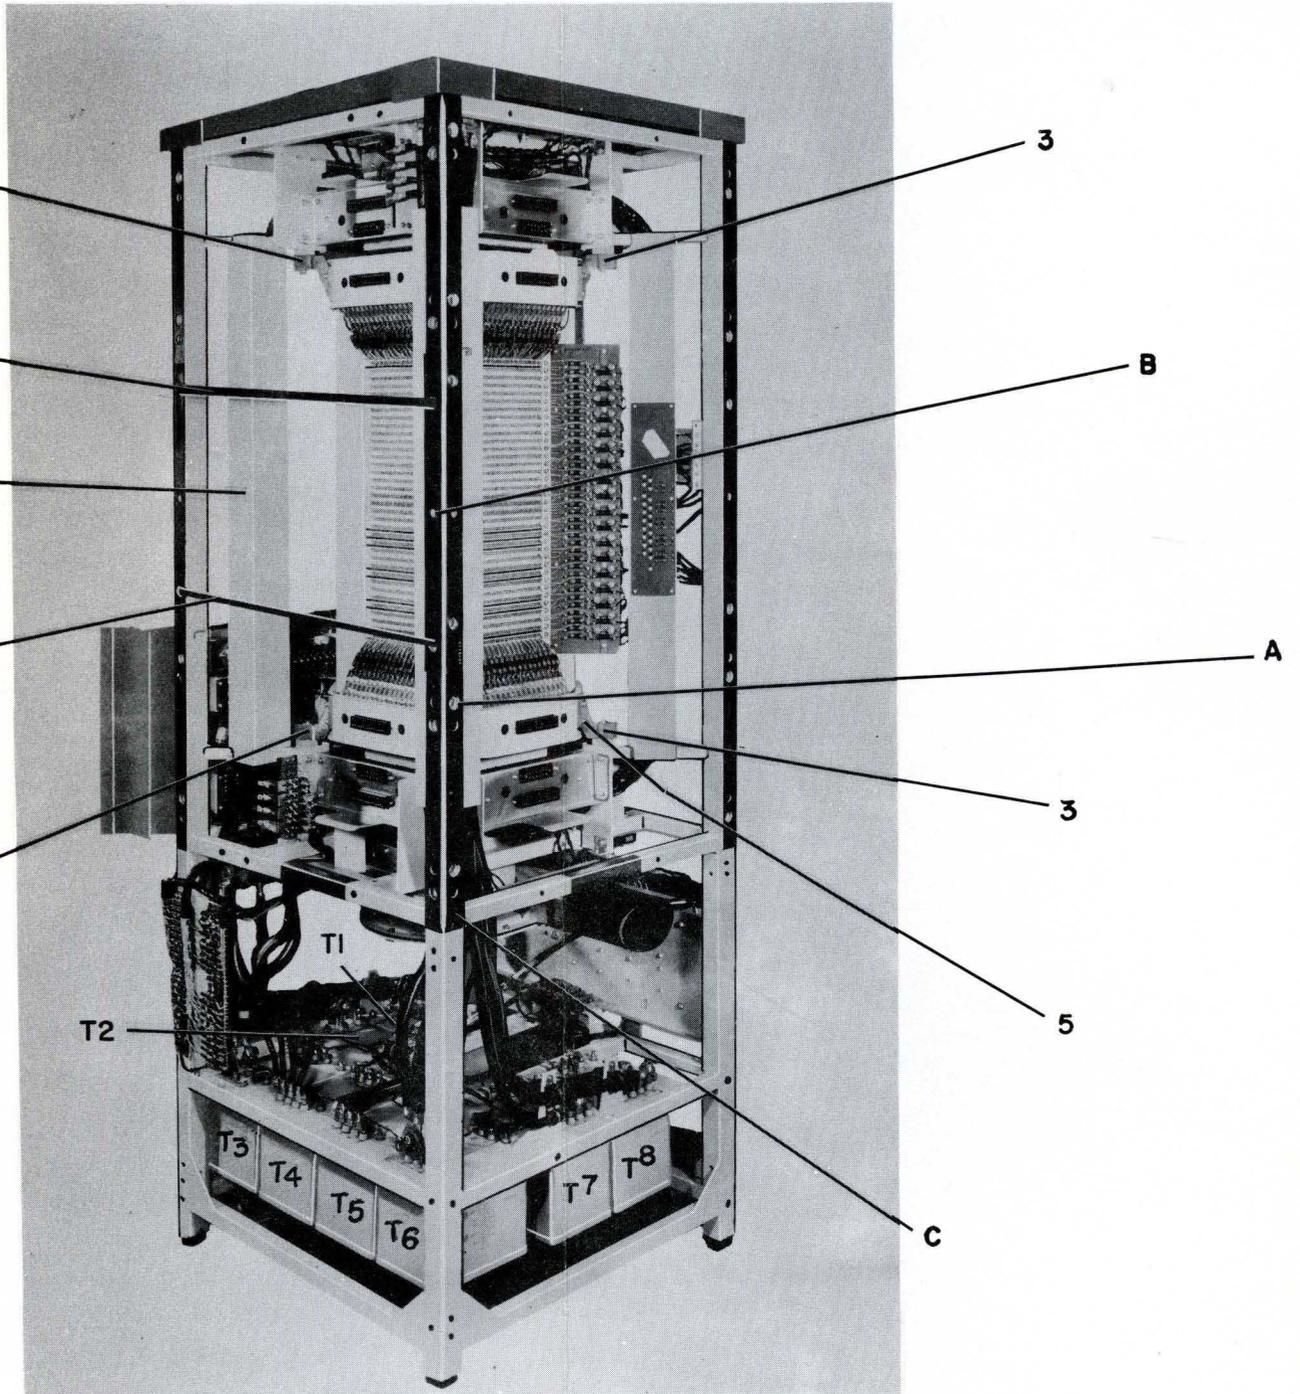

FIGURE 14. MEMORY ARRAY UNIT,
3. Refer to figure 14 foldout, and remove the two horizontal channel bars (1) in front of the array.
4. Remove the conduit (2) on front left of the unit.
7. Remove the main bolt (3) from each of the eight array cage mounting brackets (3008415); also, the washers, spacers, and nuts.
9. Remove the two screws, two washers, and two nuts that hold the top air duct (4) in place.
There are eight filament transformers (3002730) used in the core memory array. They are located at the bottom of the array and are designated T1 through T8, as shown in figure 14, foldout. Replacement of a transformer should be attempted only after a test analysis confirms the presence of a defect. Due to the physical arrangement of the transformers there is very little clearance between adjacent units, and between the transformers and the array frame. Access to a defective transformer, therefore, may first necessitate the removal of adjacent units. Table 1 provides the proper sequence to be followed in removing the filament transformer(s), once the defective unit is known.
When an individual turnlock fastener receptacle (of the type designated A in figure 14, foldout) breaks, no attempt should be made to repair it. Instead, a complete new turnlock fastener receptacle mounting bracket (3008210) should be installed in the applicable support column. An identical type mounting bracket is used in each of the four vertical support columns of the array, two in front and two at the rear. Each bracket is mounted securely within its column by two screws (3000585) located in the area designated B in figure 14, foldout. A similar location is used for the other three columns.
4. As a precaution, temporarily insert a screwdriver or equivalent type tool through the applicable column holes in the area designated C in figure 14. (In production arrays these column holes are readily visible and are not covered completely by the black rubber seal as are those
5. Remove the two mounting screws (B in figure 14) from the defective bracket. If the defective bracket is in either of the rear support columns, it will be necessary to have someone hold the top cable duct assembly as far from the frame as cable slack will permit. This will provide the necessary clearance for removing the mounting screws with the ratchet screwdriver.